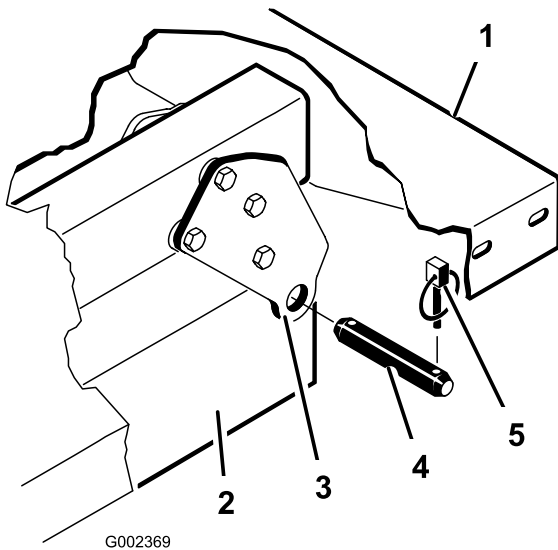

Figure 25
2. Remove the lynch pins and clevis pins securing the pivot brackets to the frame channels (Figure 25).
1. Carefully set the bed onto the vehicle frame aligning the rear bed pivot plate holes with the holes in the rear frame channel and install 2 clevis pins and lynch pins (Figure 25).